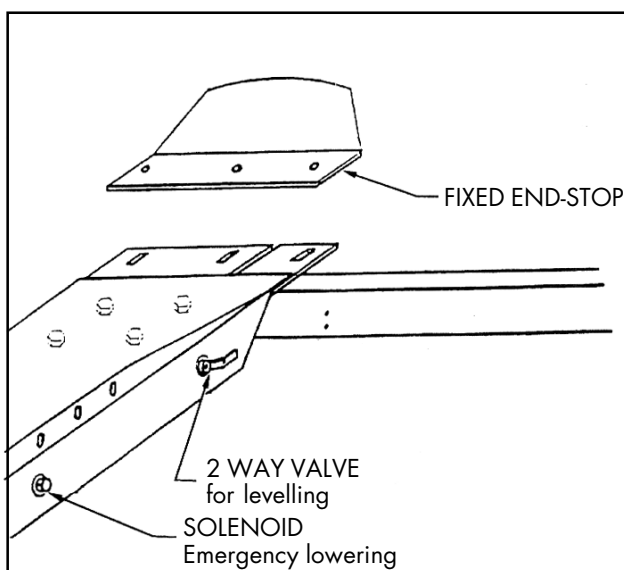

Fig. 19
- Attach the end stops onto the tracks at the opposite end to the drive on direction. (Fig. 19).
- Open the two way valve located on the inside of the fixed track (Fig. 19).
- As above, open the two bleed screws (B) and (C), on the rams, to expell any air in the system, when this is completed, re-tighten them and check for leaks. Operate the system, to fully extend the slave ram.